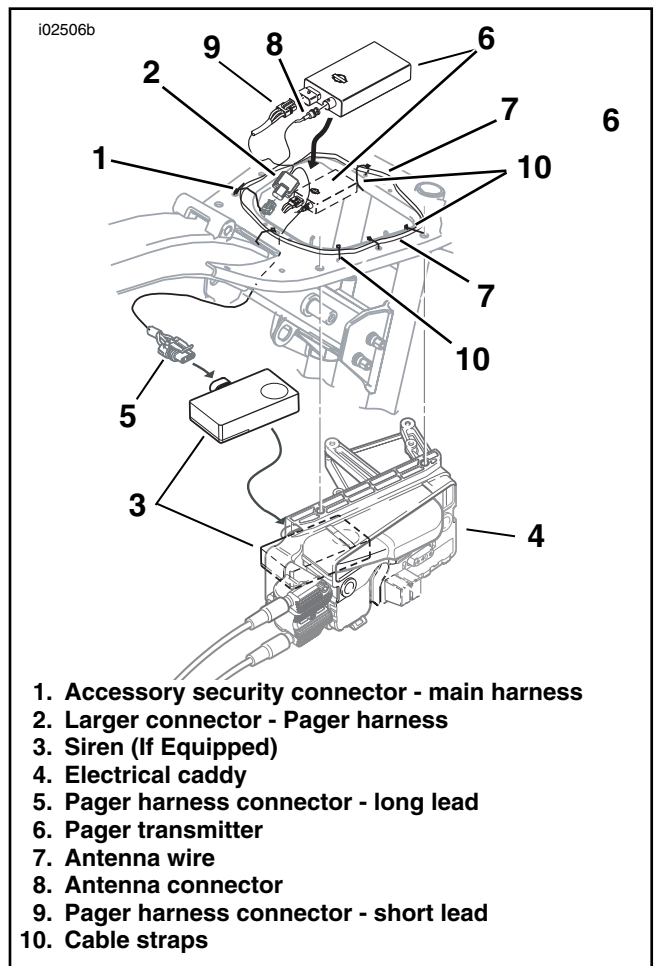

Figure 8. Pager installation to electrical caddy (2004 and later)
22. See Figure 8. Obtain items from kit. Locate and remove the accessory security connector (1) attached to the main harness and pull it up and under the seat area. Plug the large connector (2) of the pager harness into the accessory security connector (1).